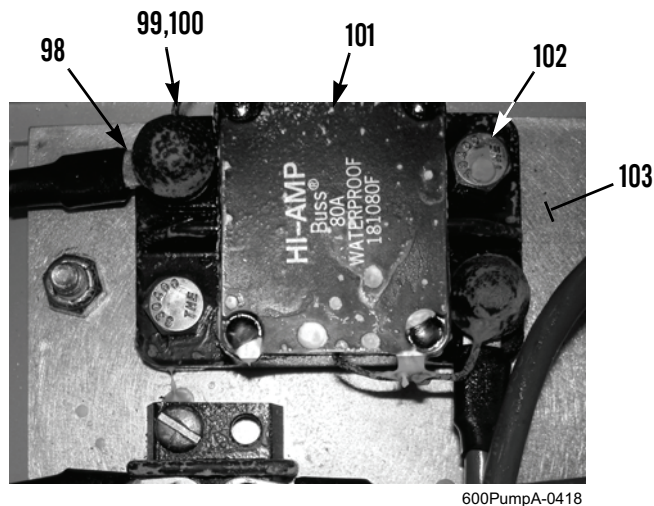

Figure 29. Hi-Amp Fuse.
1. Remove two caps (Figure 29, Item 99), nuts (Figure 29, Item 100), and wires (Figure 29, Item 98) from hi-amp fuse (Figure 29, Item 101).
2. Remove two bolts (Figure 29, Item 102) and hi-amp fuse (Figure 29, Item 101) from inside circuit board panel (Figure 29, Item 103).
1. Install hi-amp fuse (Figure 29, Item 101) on inside circuit board panel (Figure 29, Item 103) with two bolts (Figure 29, Item 103).
2. Install two wires (Figure 29, Item 98), nuts (Figure 29, Item 100), and caps (Figure 29, Item 99) on hi-amp fuse (Figure 29, Item 101).